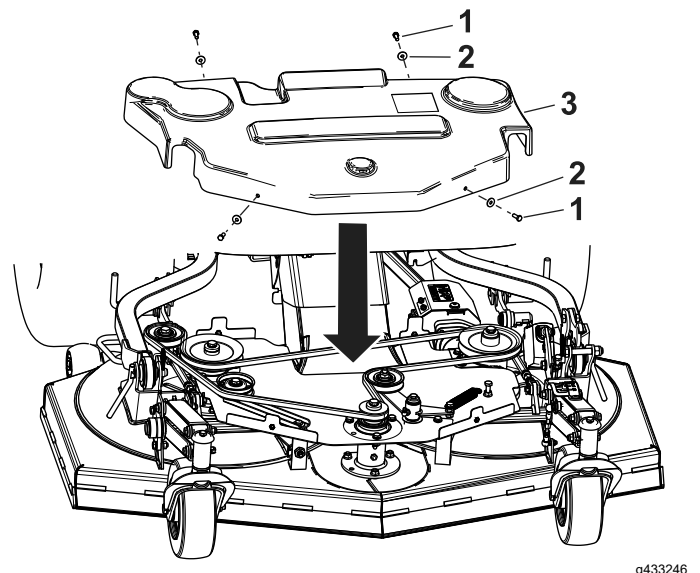

Figure 93
1. Remove the 2 bolts and washers on the front of the cover (Figure 93).
2. Remove the 2 bolts and washers on the back of the cover (Figure 93).
1. Install the cover over the belt Figure 93.
2. Install the 2 bolts and washers on the front of the cover (Figure 93).
3. Install the 2 bolts and washers on the back of the cover (Figure 93).